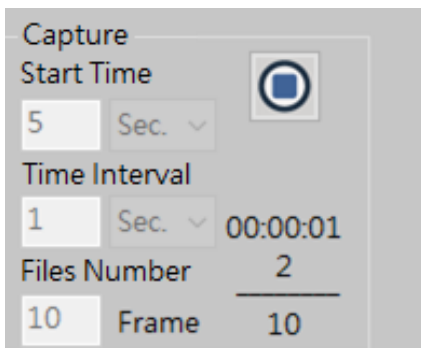
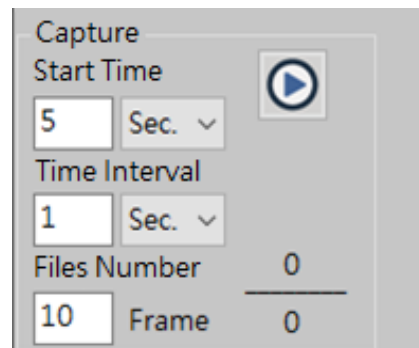

Fig 5-59 Time Lapse- Image
Fig5-60 Time Lapse – Image Capturing
(1) Capture: Setup Start time, Time Interval, and Files number to active Time lapse function, see Fig 5-59. The actual action refer to Fig 5-60.